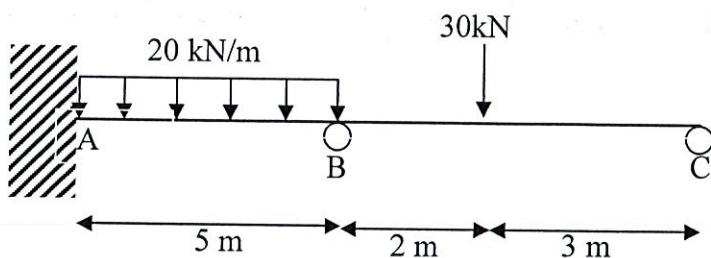

Figure B1 (a)/Rajah B1 (a)
- CLO1 (c) Calculate the slope at B (θ_B) and final moment of each member for **Figure B1 (b)** by using the Slope Deflection Method.